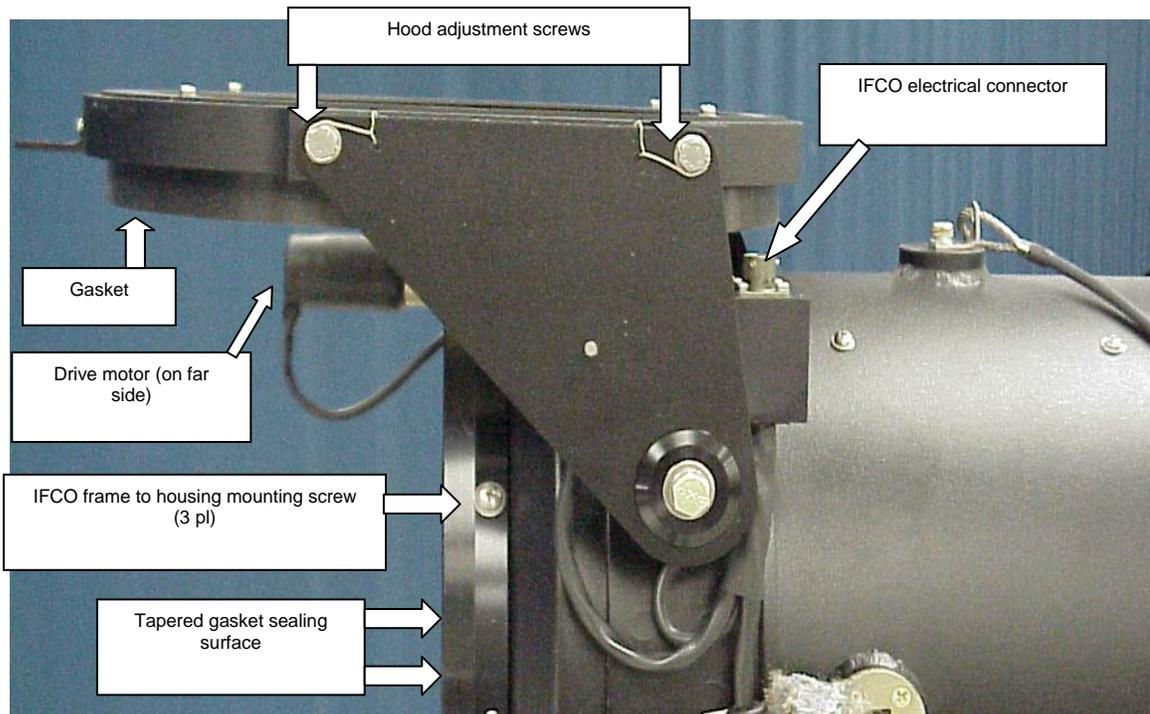

Figure 27 IFCO Hood in Open Position
- The operator can return the Searchlight from filtered to white light operation in approximately 20 seconds. Figure 27 shows the IFCO filter (hood) in the non-operational open (up) position on top of the Searchlight housing.